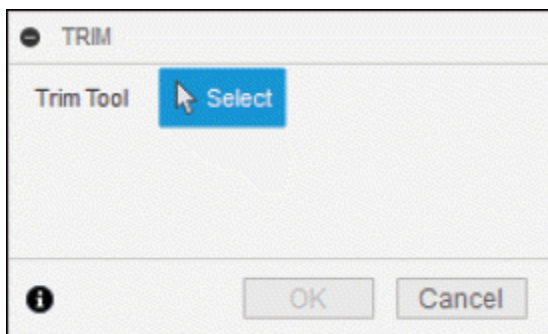

Figure-67. TRIM dialog box
- Click on the **Trim** tool from **MODIFY** drop-down. The **TRIM** dialog box will be displayed; refer to Figure-67.